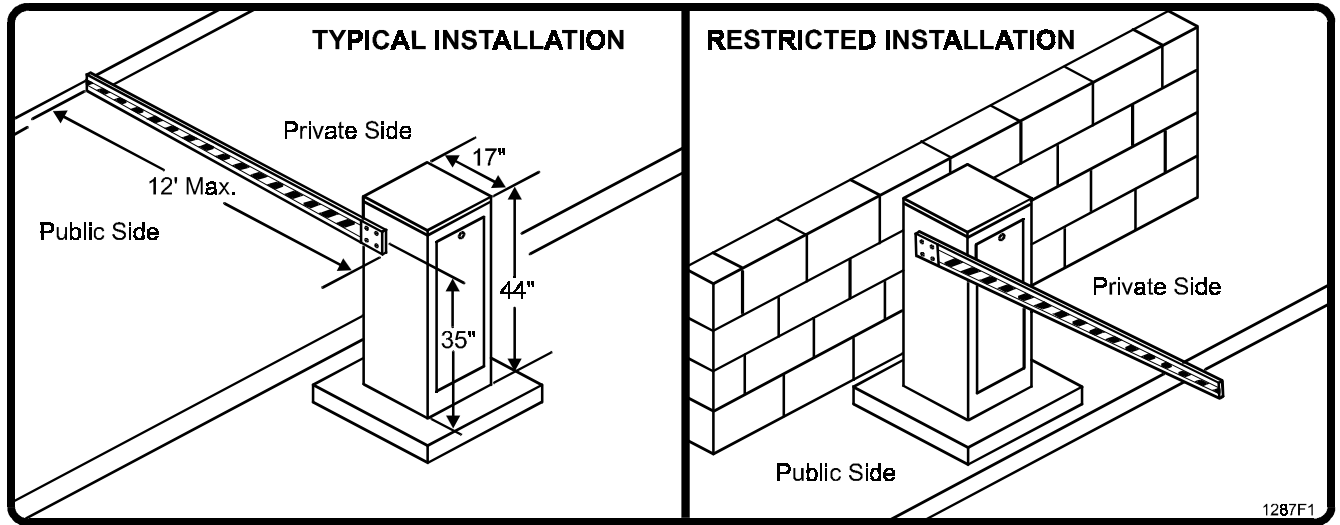

Figure 1. Barrier Gate Operator Layout.
Figure 1 shows two different single gate installations. For location and layout details of Bi-Parting, Bi-Parting Latch, Trap and Tandem gates, see Installation and Operation of Master/Slave Systems for Series B1 Gate Operators Doc. No. 6001378, Part 1.
1. Mount the cabinet on the cement pad using the previously installed anchors. Be sure the operator mounting is level and square, and that the gate operator access door faces away from the driveway (see Typical Installation, Figure 1).